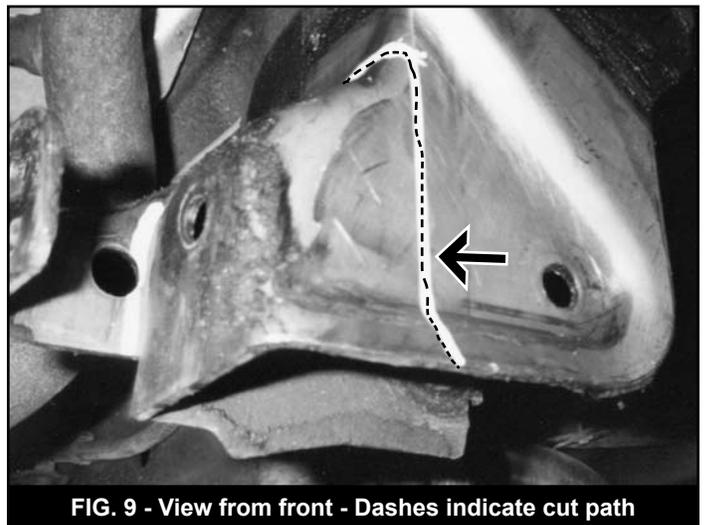

FIG. 9 - View from front - Dashes indicate cut path
- 23. Cut off the inner portion of the driver's side lower rear control arm pocket by making vertical and horizontal cuts 2" inward from the control arm mount holes. Dress and paint the affected area. (Fig. 9 & 10)